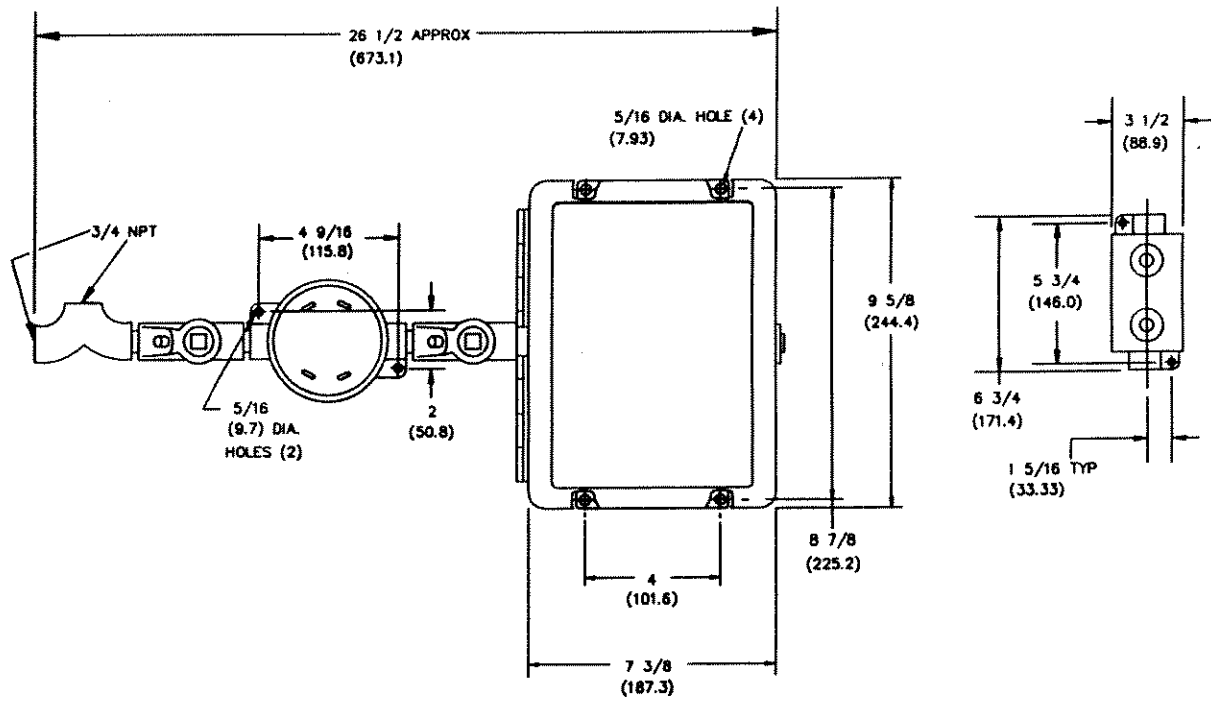

Figure 1
The required change of input capacitance is provided through the probe which is mounted in or near the material being measured. Drexelbrook 380 series cable transmits the change of capacitance signal from the probe to the electronic unit. The Car Loading System seen in the Figure 1 consists of :
The electronic system may be mounted on any flat surface either vertically or horizontally. The unit sizes are shown on Figure 1.
All customer connections are made to the barrier strip located on the side surface of the 406-6000 On/Off unit. See Figure 1. The barrier strip is accessed by unscrewing the conduit cover of the 406-6000 unit. All wires to the unit should be led through the seal fitting to the barrier strips. When the wiring has been completed, the seal fitting should be sealed by the customer with Chico X, or an equivalent sealing compound.
The Level Range Switch, seen in Figure 1, is located in the junction box. It provides the coarse control for setting the relay set point relative to the car mounted sensor. The switch provides 4 overlapping control ranges. Position 4 represents the range of maximum outage providing a switching range (for the specified material) nearest the tip of the sensor. Similarly, position 1 represents the range of minimum outage providing a switching range nearest the top of the car and the sensor mounting.
The Level Vernier Control, seen in Figure 1, is located in the Junction Box. It provides a fine vernier adjustment of the relay set point within the range set by the Range Switch (ref. 3.2.3). The Vernier Control is continuous providing essentially infinite resolution over its range. The vernier dial is marked in arbitrary units useful primarily